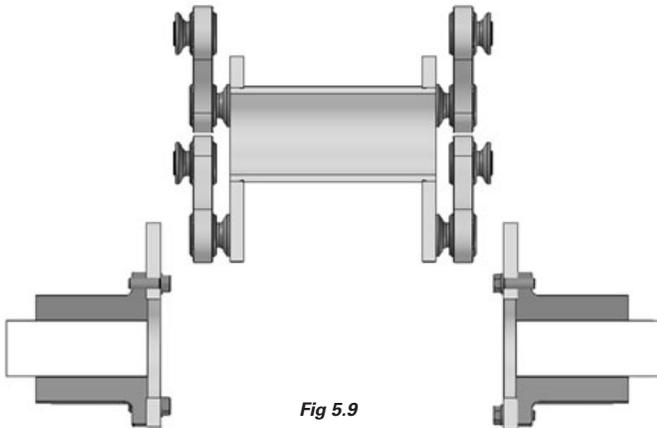
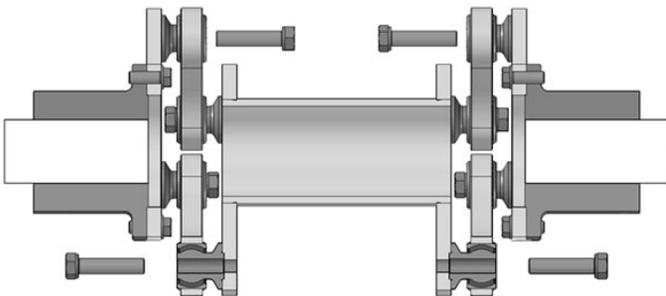

Fig 5.9
Fig 5.10
- Once flanges are installed, insert the spacer (3) + links (2) assembly and mount it to its correct position by compressing each link individually and placing into its corresponding hole. (See fig 5.9). Once in place, mount the links using the corresponding screws and washers (7, 8). (See fig 5.10)